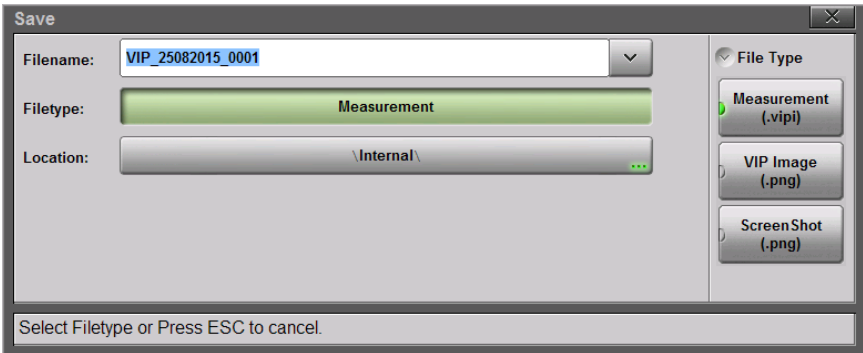

Figure 15-7. VIP File Type
10. To select the type of file to save, press the Filetype button, then press the desired submenu key. See Figure 15-7.
<div data-bbox="65 256 134 284">  File </div> <div data-bbox="65 301 240 384">  Save </div> <div data-bbox="65 395 240 478">  Recall </div> <div data-bbox="65 489 240 574">  File Mgmt </div>	<p>Save: Press this key to open the Save dialog (Figure 10-1 on page 10-3). This function is the same as pressing the keypad menu key Save (7).</p> <p>You can choose to save the VIP image and analysis results, the VIP image alone, or the current display screen. See Figure 15-7 on page 15-8.</p> <p>Recall: Press this submenu key to open a previously saved VIP measurement file (.vipi extension) or VIP image (.png extension). Refer to “Recall a VIP Measurement (VIP Mode Only)” on page 10-13. Note that a captured screen shot of the display cannot be recalled and analyzed.</p> <p>File Mgmt: Press this submenu key to display the “File Mgmt Menu” on page 10-29. This menu contains basic file management functions including renaming files or folders, creating folders, copying, pasting, and deleting files or folders. Many of the file management functions are duplicated in the Save and Recall menus for user convenience.</p>